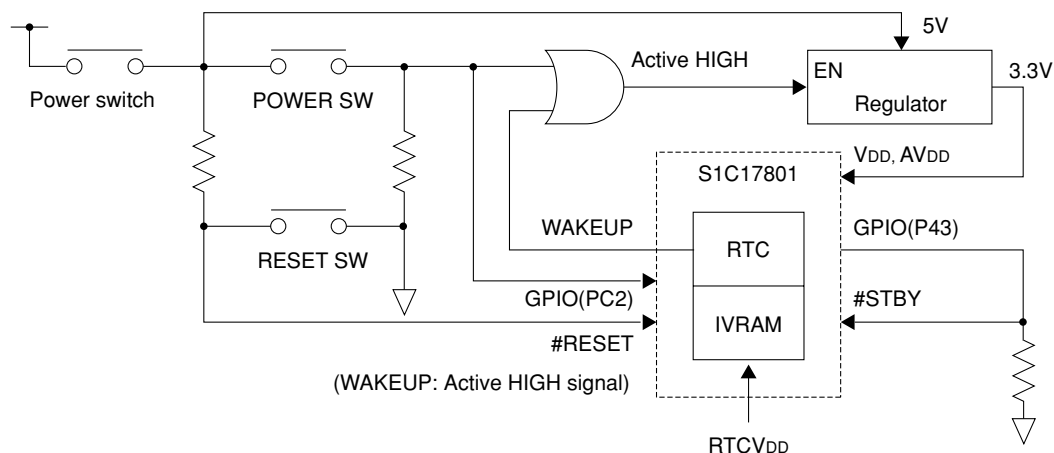

Fig. 10.2.1 Power Control Circuit for Battery Backup Function
Figure 10.2.1 shows the power control circuit for SVT17801 battery backup function.
In order to enable backup battery function on the circuit installed on SVT17801 as shown in the figure 10.2.1, JP2 and JP3 must be set to WAKEUP ENABLE and Battery respectively (both factory default).
JP3 selects supply source of RTCVDD shown in the figure 10.2.1. If Battery is selected, RTCVDD is supplied from the coin cell battery (CR2032) and if VDD is selected, RTCVDD is supplied from VDD. For detail of JP settings, see Chapter 8.
The following list shows GPIO (PC2) status and VDD voltage according to power switch and WAKEUP pin statuses when JP1 and JP2 are set to EnableWakeup and Battery respectively in the circuit shown in the figure 10.2.1.
The following is an example to show how to set up standby mode in the circuit shown in the figure 10.2.1.
The following is an example to show how to release standby mode in the circuit shown in the figure 10.2.1.
- ① In Step ⑤ of above set-up example 1, the standby mode is released (WAKEUP pin is turned HIGH) after predefined time has passed, and the output of regulator shown in figure 10.2.1 becomes always 3.3V.
- ① Press power switch.
- ② While the power switch is being pressed, the output of regulator shown in figure 10.2.1 becomes 3.3V, S1C17801 starts operating and, immediately after that, the standby mode is released by turning the WAKEUP signal HIGH.
- ③ By turning the WAKEUP signal HIGH at Step ②, the output of regulator shown in figure 10.2.1 becomes always 3.3V.